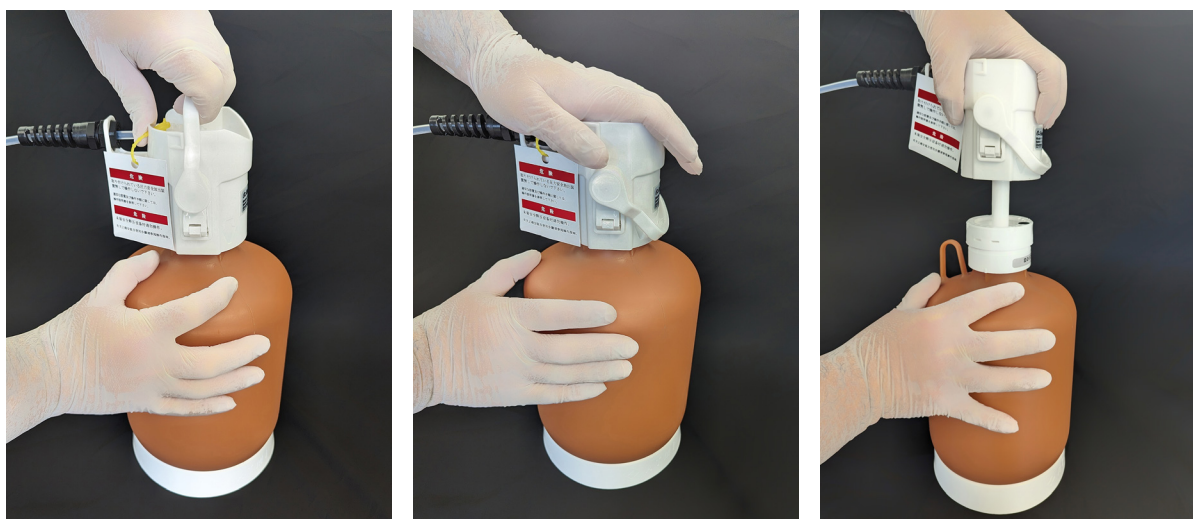

Figure 31. Correct procedure for removing the ErgoNOW connector.
1. Pull the ergonomic release lever into a vertical position while holding the bottle in place with the other hand. Do not lift the ErgoNOW connector away from the bottle yet (see Figure 31).